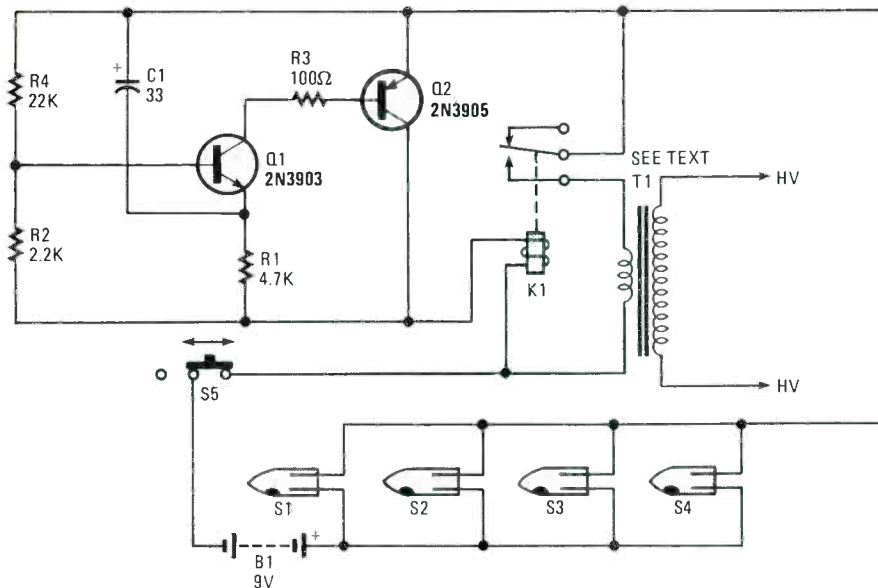

Fig. 1. The Hot Socket consist of nothing more than two general-purpose transistors (Q1 and Q2) and a few support components, including a home-made transformer.
**How It Works.** Figure 1 shows the schematic diagram of the *Hot Socket*. The circuit consist of two general-purpose transistors (Q1 and Q2) and a few support components, including a home-made transformer. When S1 is flipped to the on position and the circuit is not tilted in any direction, no power is delivered to the circuit. But when the circuit is tilted, power is applied through one of the mercury switches and a voltage divider network (consisting of R2 and R4) to the base of transistor Q1, turning it on. At the same time, a short-duration pulse is applied to the emitter of that transistor via capacitor C1.